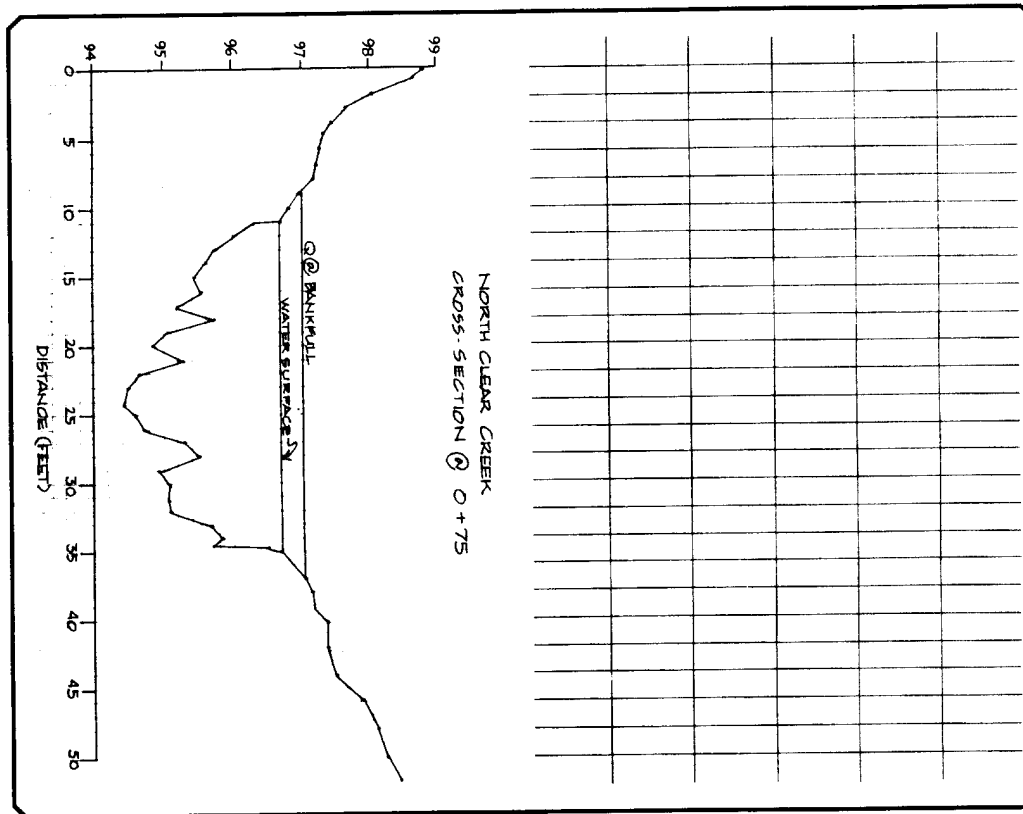

Figure 36. - Field plot of cross-section.
7. **PLOT THE DATA IN THE FIELD BOOK.** Always plot the data while in the field (fig. 36). This helps to catch errors and gives you a better feel for how your site translates into a notebook record. The purpose of your study will dictate whether to (1) extend the plot to the floodplain or terrace elevations, or (2) plot the channel cross-section alone. For visual emphasis, the vertical scale of the plot may be exaggerated by a factor of 10.